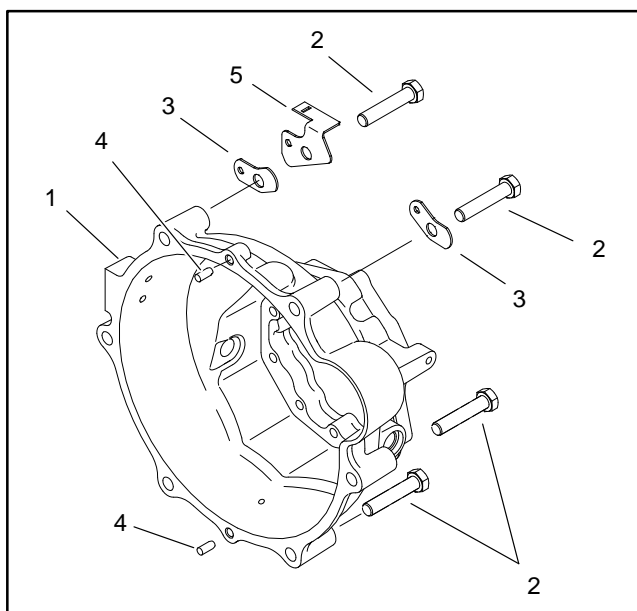

Figure 14
16. Remove six (6) cap screws that secure clutch bell housing to engine. Note location of harness bracket(s) (Fig. 14).
18. Note location and retrieve two (2) dowel pins from bell housing (Fig. 14).
3. If engine mount was removed, secure mount to engine with seven (7) flange head screws. Do not install the screw used to secure the ground connections to the engine at this time.
5. Install two (2) dowel pins in bell housing bores (Fig. 14).
9. Secure bell housing to engine with six (6) cap screws and harness bracket(s) (Fig. 14).